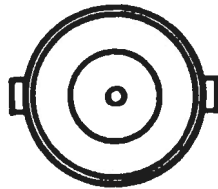

Figure 2.7 BNC Type Connector
The VIDEO connector is a BNC type (see Figure 2.7) which provides a composite video 1.5 volt signal. You can use this output to operate a video monitor at a remote location. To operate a monitor, connect a 75 ohm coax cable between the VIDEO connector on the Sentinel III rear panel and the Video input connector on your monitor.
- a. XTAL OSC Connector - Input connector (BNC) for Inficon oscillator IPN 013-001. See Figure 2.7.
- b. CH.1 CTL/CH.2 CTL Connectors (see Figure 2.7) - Provide outputs of 0 to -10 volts DC to control the source power. This output voltage may be changed by removal of one or both jumpers on the Deposition Control Board. With the jumpers in place, output voltage is 0 to -10V; jumpers removed produce 0 to -5V output. Jumper J1 changes Channel 2, Jumper J2 changes Channel 1.